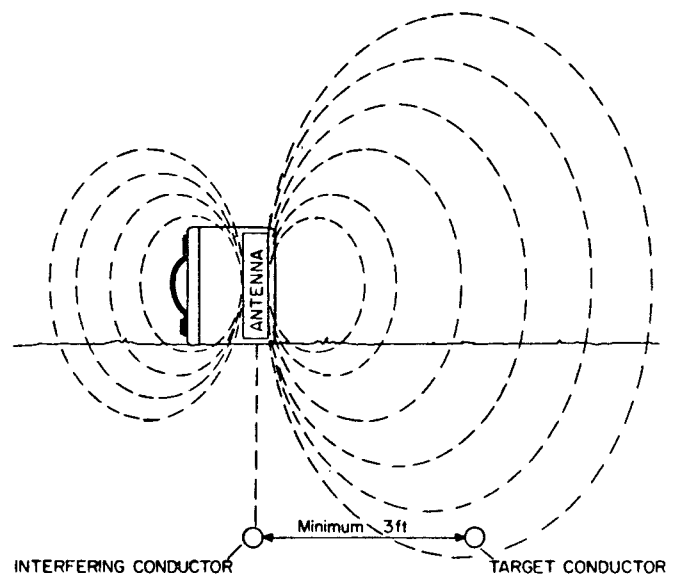

Figure 6-4: Position of Transmitter for Minimum Interference
4. If you are using the Inductive (Indirect) mode, you may be able to decrease the amount of interfering signal by changing the orientation of the transmitter to the targeted conductor. Determine the location of the interfering conductor. Place the transmitter, turned on its end with the bottom facing the targeted conductor, over the interfering conductor as shown in Figure 6-4.